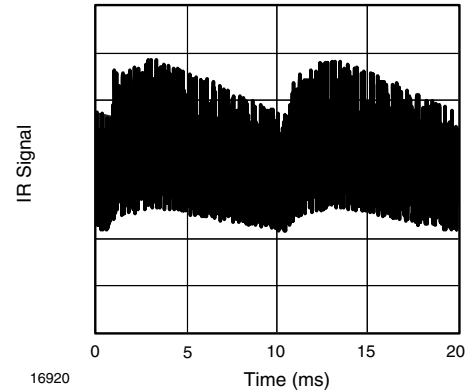
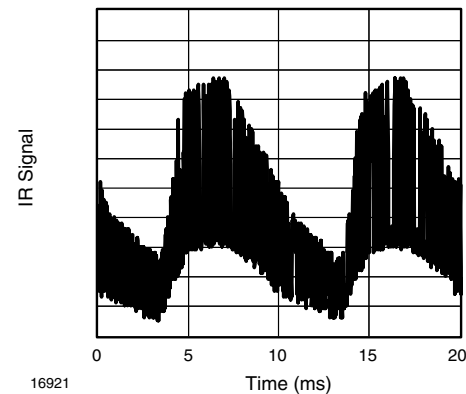

Fig. 14 - IR Discturbance from Fluorescent Lamp with Low Modulation
Fig. 15 - IR Discturbance from Fluorescent Lamp with High Modulation
- Strongly or weakly modulated pattern from fluorescent lamps with electronic ballasts (see fig. 14 or fig. 15)